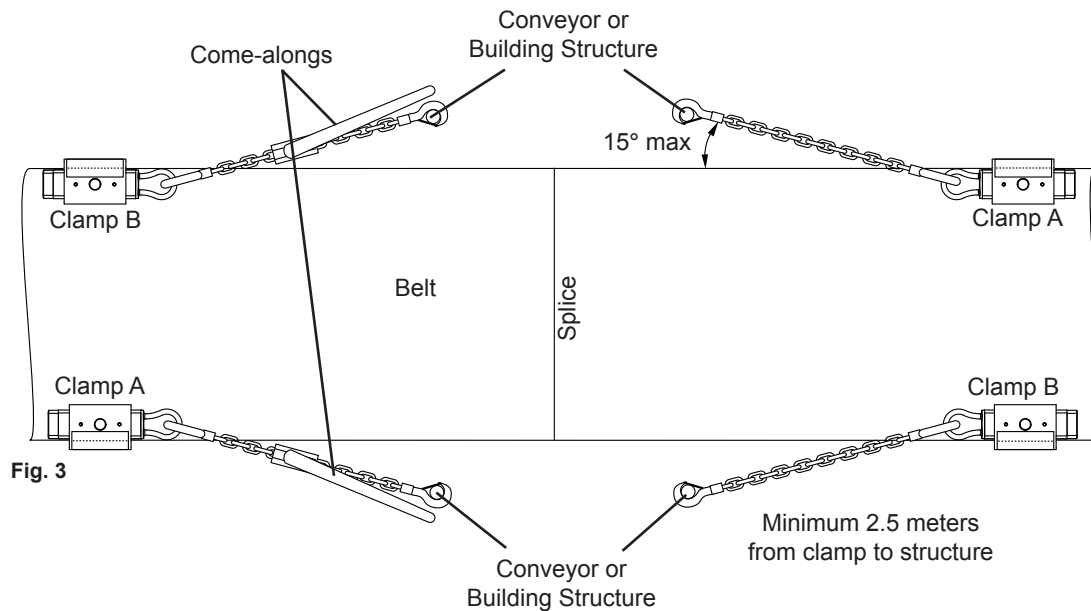

Fig. 3
- b. **Clamp-To-Structure:** On one side of the splice, attach chains to pull loop of clamp and to conveyor structure (Fig. 3). On other side of splice, attach come-alongs to pull loop of clamp and to conveyor structure. It is important to secure to structure at least 2.5 meters back, so as to keep the angle of pull less than 15°.